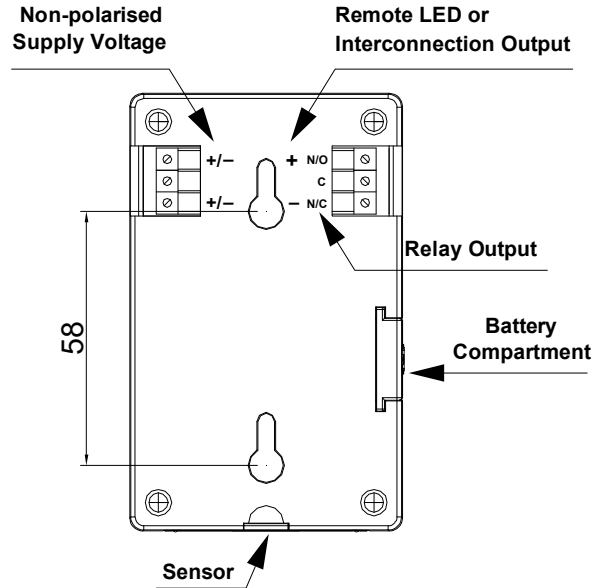

Fig. 1: 404 wiring connections
3. Connect the conductors to the terminals as shown in Fig. 1.
2. Install the interconnect wiring to the terminals as shown in Fig. 1.
1. Install the wiring from the ancillary equipment to the terminals as shown in Fig. 1.
2. Install the wiring to the terminals as shown in Fig. 1.